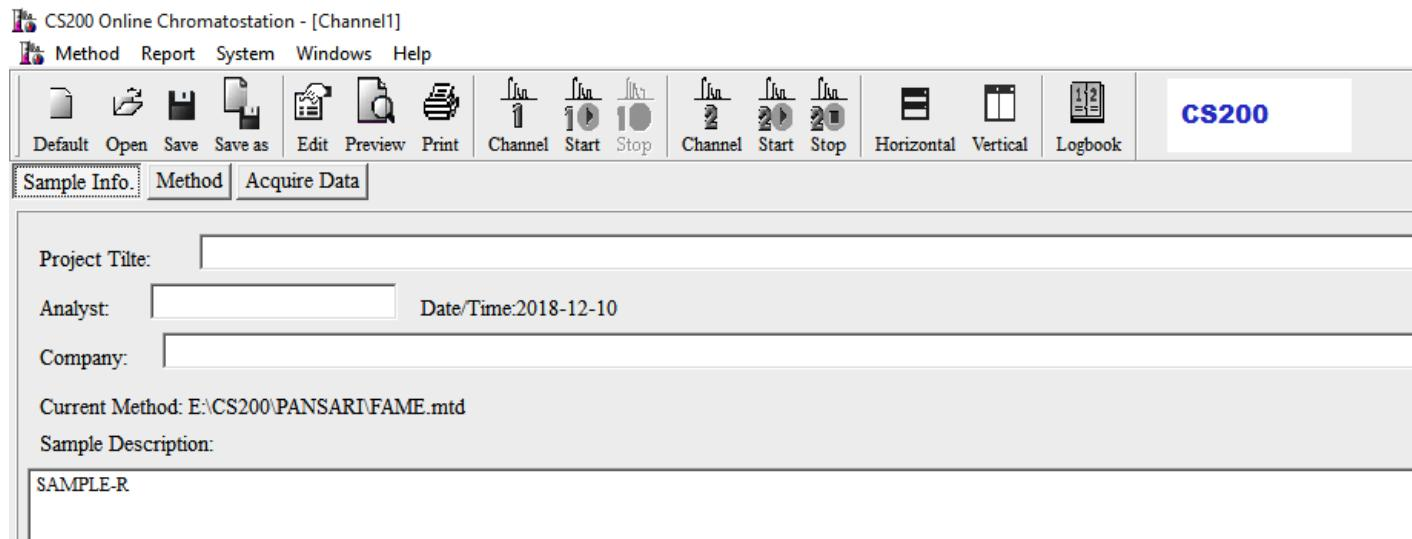

Figure C-100. Dialog box for Sample Information
2. The dialog box for Sample Information will appear as shown in Figure C-100.